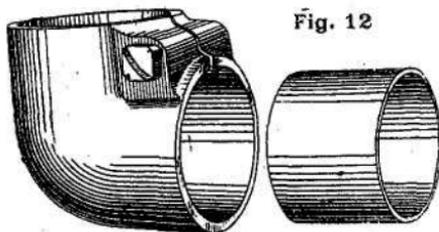

Fig. 12
**Adaptor for hot air pipe.** — To facilitate the adaptation of this to the carburettor we can supply to order a special hot air bend as illustrated in fig. 12 which can be fitted either directly on the carburettor or on the off side of the strangler and which, swinging in all directions in a definite plane, will facilitate greatly the adaptation of the flexible tubing.